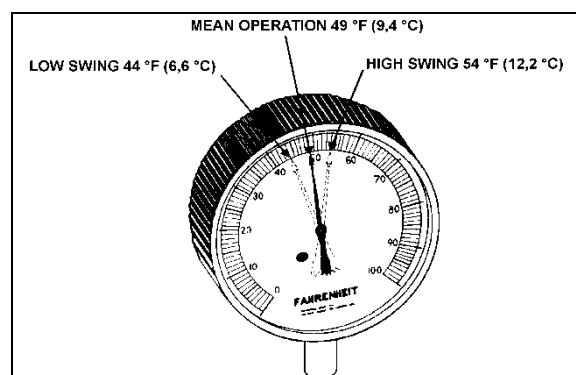

FIGURE 58: HIGH & LOW SWING TEMPERATURE AT REMOTE BULB 22047
6. Check approximately 5 readings of pressure at 2-minute intervals and convert to temperature using the vapor-pressure table. Likewise check the temperature reading at the remote bulb at the same 2-minute intervals and record the low and high swing readings of the needle (Figure 58).